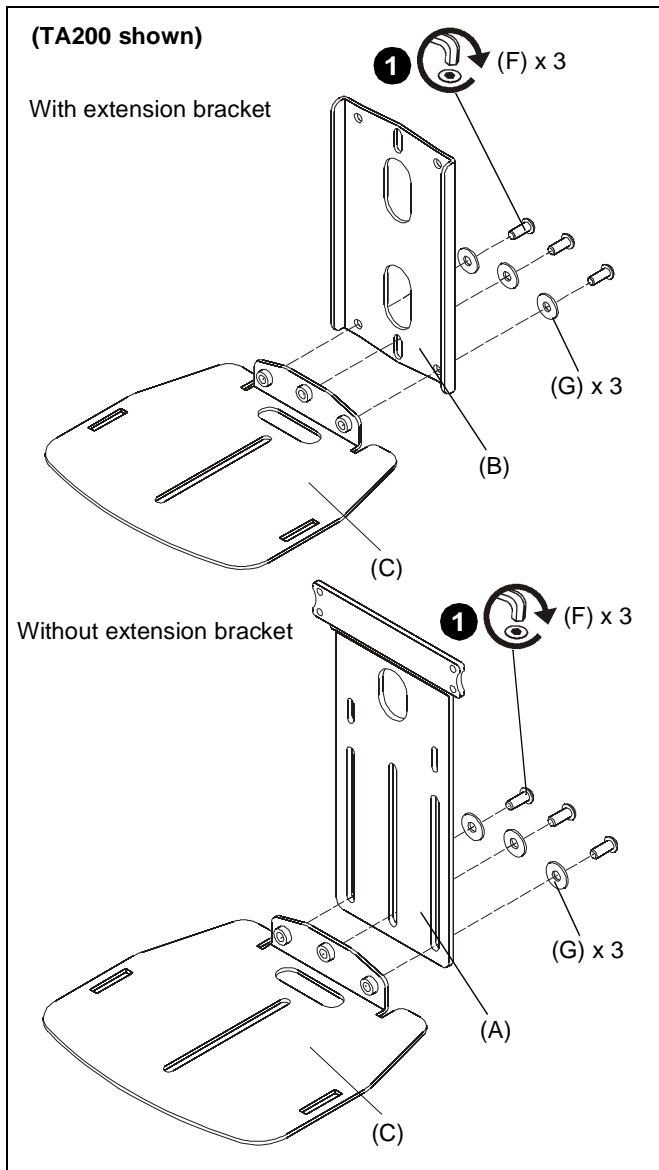

Figure 1
Figure 1 shows the dimensions of the test specimen. The dimensions are as follows:
1. Use three 1/4-20 x 5/8" button head cap screws (F) and three 1/4" washers (G) to connect shelf (C) to either extension bracket (B) or attachment bracket (A). (See Figure 1)